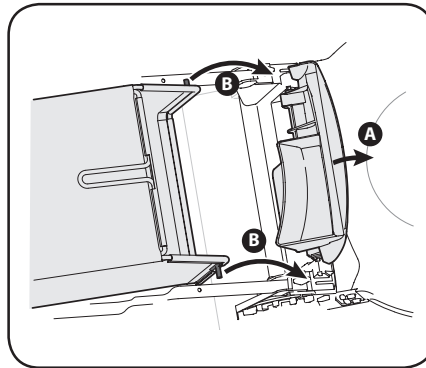

Figure 2-9
- Follow steps below to attach grass catcher. See Figure 2-9.